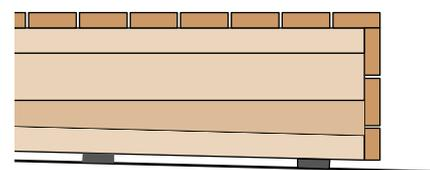

FIGURE 2 – 2° DECK SLOPE OVER 4.8m
The maximum width of decking before extra runners are needed\* is 3.6m for a 2° slope and 4.8m for 1.5° degree slope. (See Fig. 2)
Place the screw end of a TYPE B joist level with the end of the previous row, and put in first screw. Using a spirit level, open the joist until level and screw together as per row A. With row A and B now end for end, connect them together with the Stainless steel flitch plate, fixed horizontally with 8g x 40 stainless wood screws. (See Fig. 2)
Repeat instructions as for TYPE B, connecting row B and C with the flitch plate fixed vertically (see Fig. 2). At any time a row can be cut to required length.
**TYPE D+ -** When installing on a 2 degree slope, you will need to place a 45 x 45mm runner under this row (rubber mounts attached). (See Fig. 2) Screw the joist to the runner with a 10g x 50 stainless steel screw.